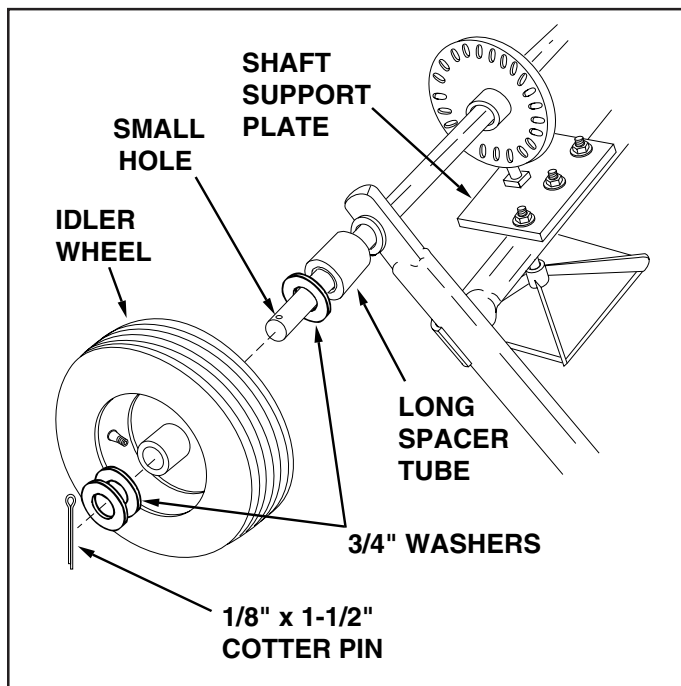

FIGURE 1
2. Assemble the long spacer tube and a 3/4" washer onto the end of axle of the axle that has the small drilled hole (right hand side). See figure 1.
3. Place the idler wheel (no notch in hub) onto the axle. The air valve should face to the outside. See figure 1.